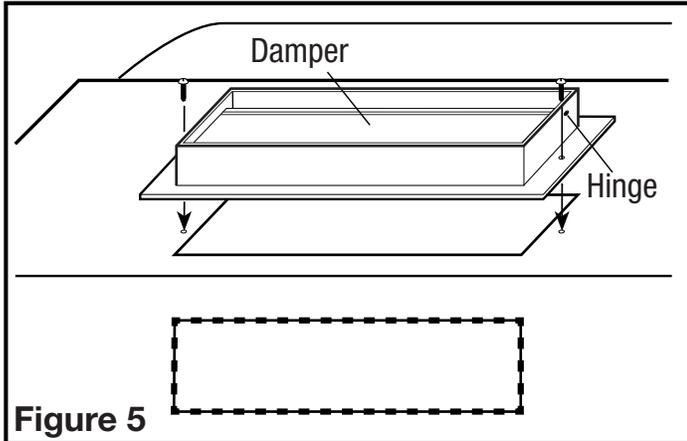

Figure 5
3. For vertical or horizontal ducting, install the appropriate damper assembly to the hood by placing the assembly over the opening and securing in place with the provided screws (Figure 5). If using the 3-1/4" x 10" damper, make sure the damper hinge is towards the front or the top of the hood to ensure the best possible performance.